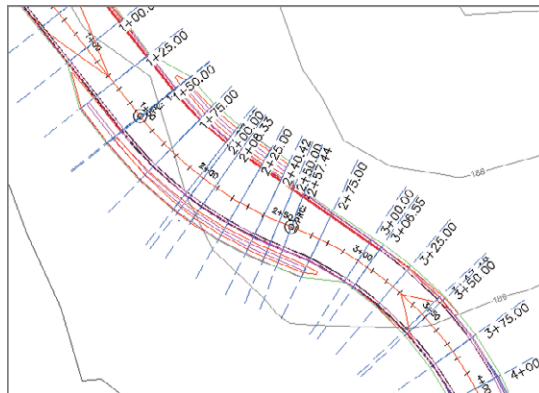

FIGURE 10.7 Sample lines created at corridor stations
- Press Esc to end the command. Zoom in to the left viewport, and examine the sample lines that have been created (see Figure 10.7).